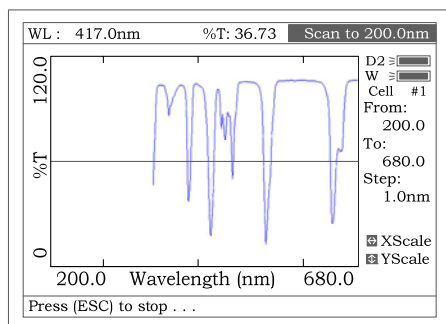
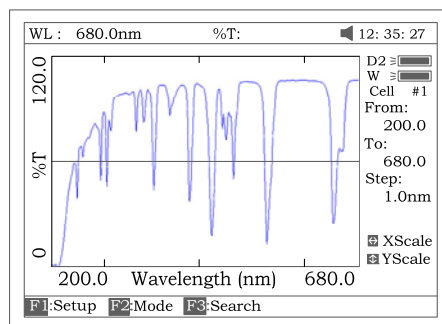

Fig 45
Fig 46
- Pull the sample cuvette into the light path, press [START] to scan the sample (Fig 45) [ESC/STOP] to stop scanning. When scan has finished the beeper beeps 3 times (Fig 46).
Note: The report always is printed in Fig 46